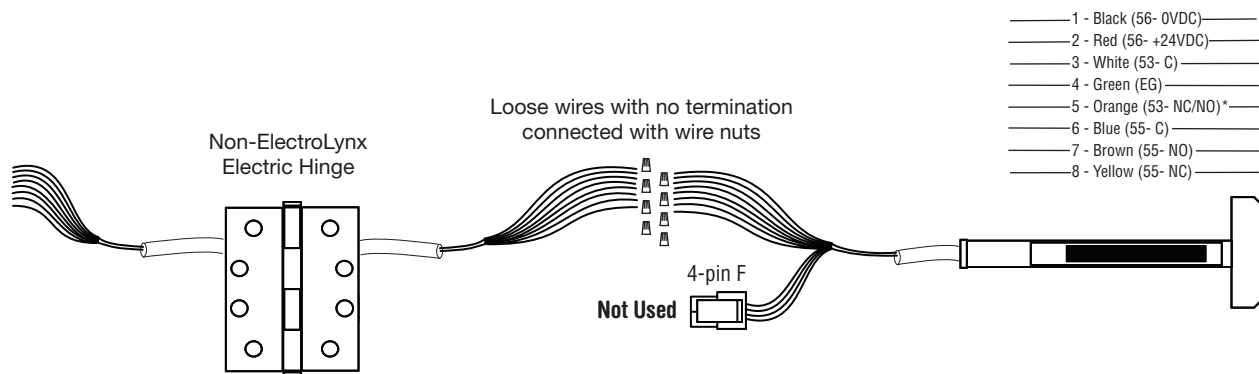

Fig. 10 Non-ElectroLynx POWER MODE Wiring
- a. Plug the 8-pin ElectroLynx connector from the rail into the 3" ElectroLynx harness or splice into non-ElectroLynx harness (Fig. 10 Non-ElectroLynx **POWER MODE** Wiring).